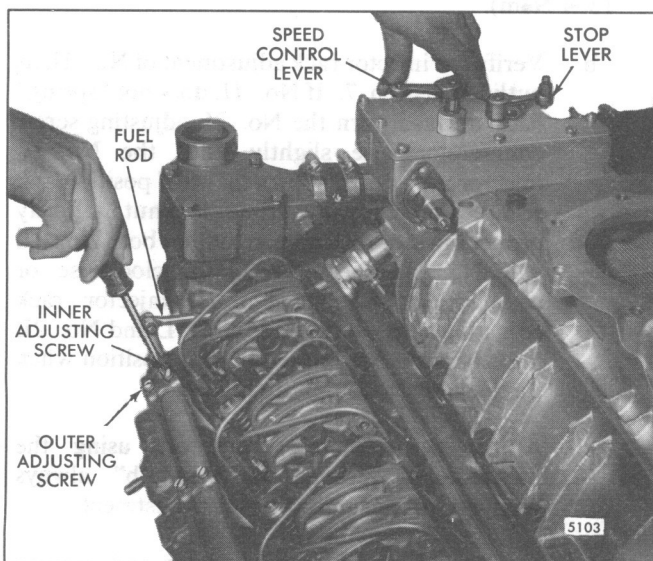

Fig. 8 – Positioning No. 1 Injector Rack Control Lever (Two Screw Assembly)
- Move the speed control lever to the *maximum speed* position and hold it in that position with light finger pressure (Fig. 8 or 9).
Turn the inner adjusting screw of the No. 1L injector rack control lever down until a slight movement in the control tube lever is observed or a step-up in effort to turn the screwdriver is noted (Fig. 8). This will place the No. 1L injector rack in the *full-fuel* position. Turn down the outer adjusting screw until it bottoms lightly on the injector control tube. Then, alternately tighten both the inner and outer adjusting screws.